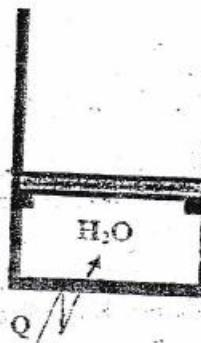

Figure P.9
9. A piston cylinder device shown in figure P.9 contains 0.2 Kg of a mixture of saturated liquid water and saturated water vapor at a temperature of 50°C and a volume of 0.03m^3 . The mass of the piston resting on the stops is 50 Kg and the cross sectional area of the piston is 12.2625 cm^2 . The atmospheric pressure is 100 kPa. Heat is transferred until it becomes saturated vapor. Sketch the process on P-v and T-v diagrams and determine: